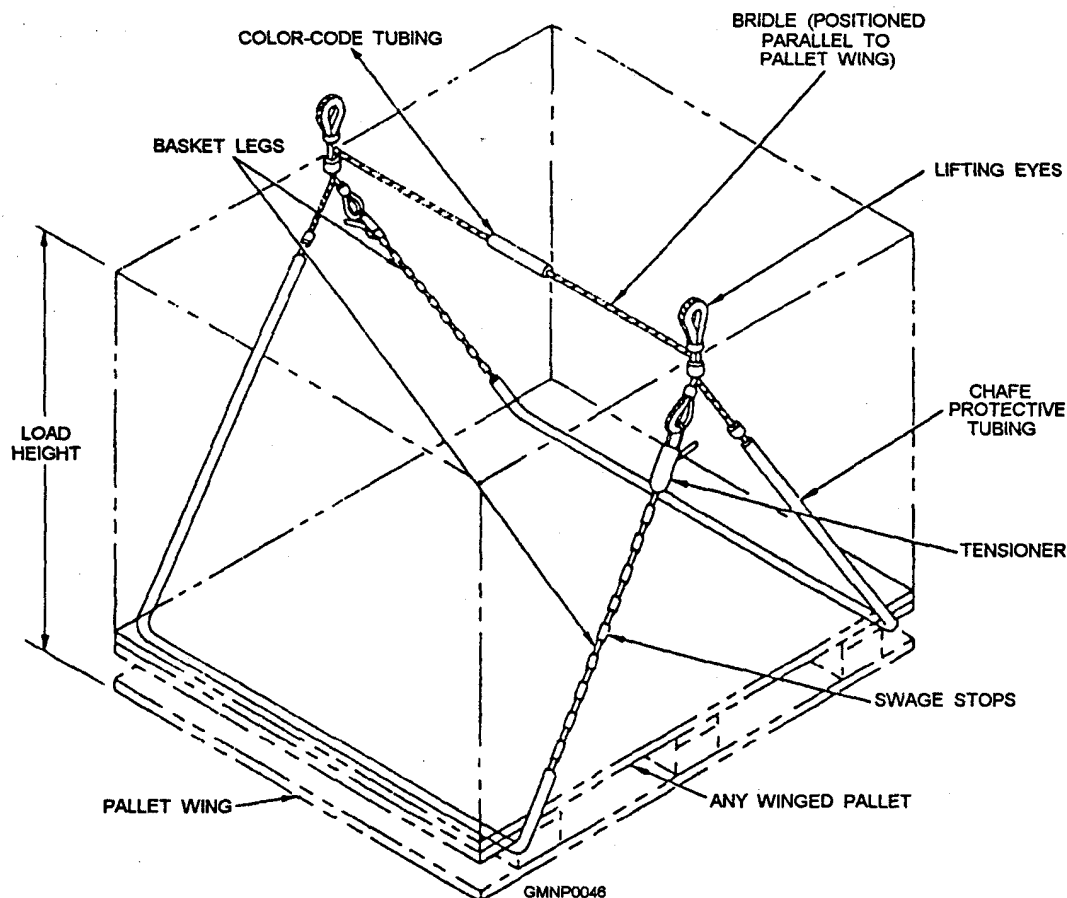

Figure 2-31.—Adjustable pallet sling.
**SLINGS.**— Bulk ammunition is most often moved in palletized loads. Slings are used to facilitate the movement of these standard-size loads by helicopter and underway replenishment. Aboard ship you will find a wide variety of slings for moving ammunition. The slings most commonly used for moving gun ammunition are the Mk 85, 86, 87, and 100. All of these are size variations of the same type of adjustable sling (fig. 2-31). These slings are adjustable for